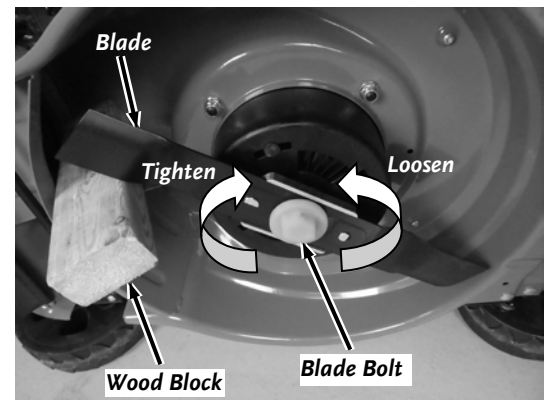

Figure 16
2. Use a block of wood to hold the blade steady (**Figure 16**).